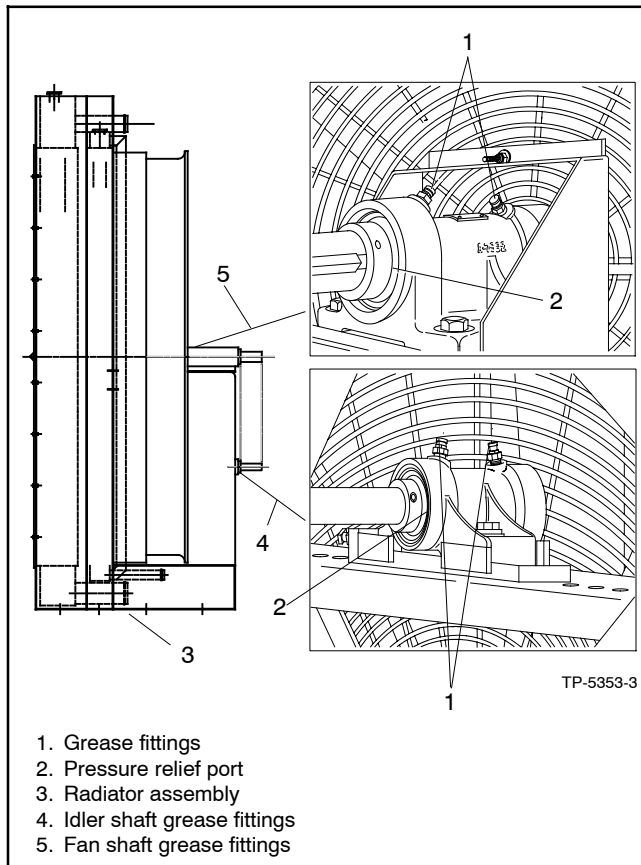

Figure 3-8 Radiator Fan Bearings and Pressure Relief Ports, Typical
- Inject grease into the two bearings on the fan shaft block and the two bearings on the idler shaft block using a grease gun until a 3–6 mm (0.13–0.25 in.) grease column shows at the bearing pressure relief port. See Figure 3-8.